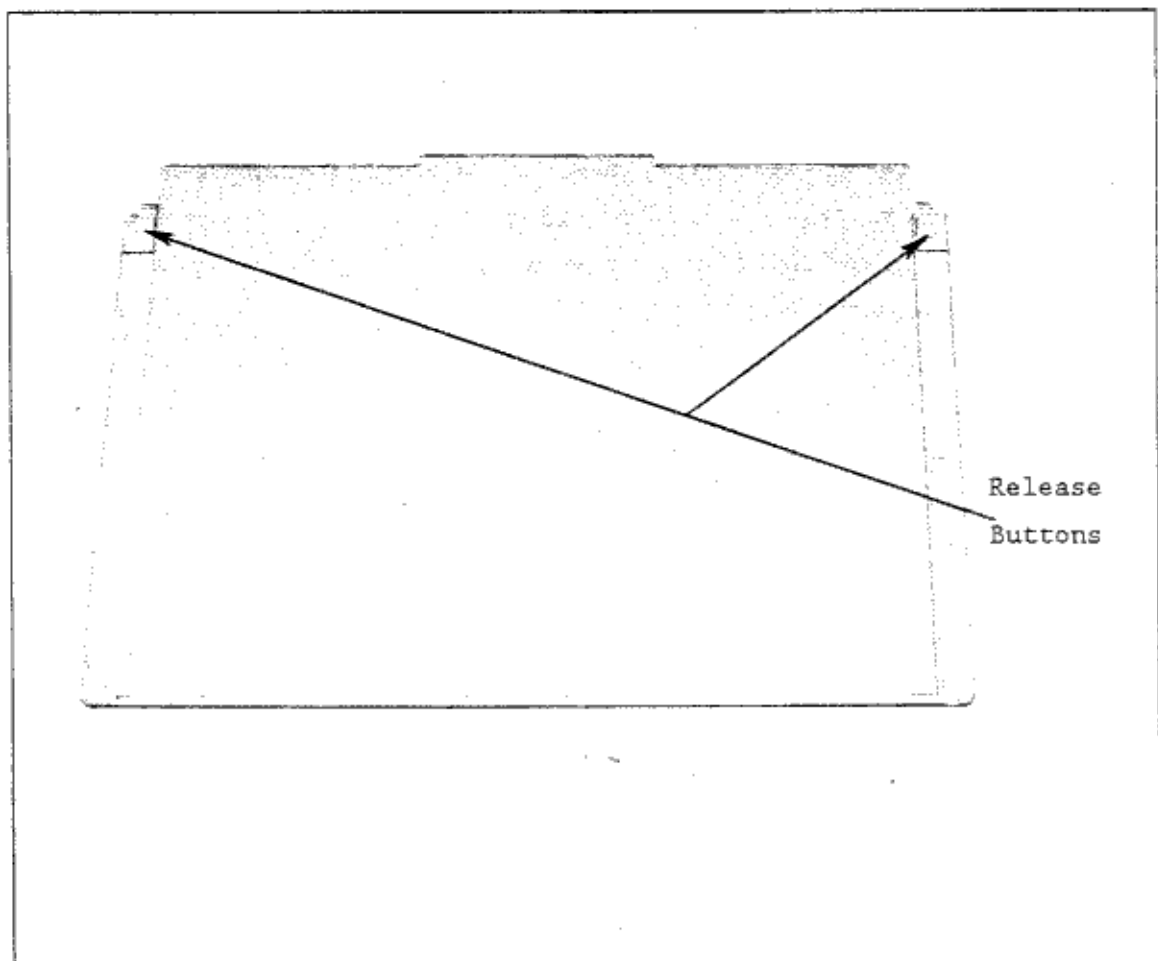

FIGURE 5-6 TABLET REMOVAL
1. Referring to Figure 5-6, press the two release buttons and pull the tablet straight out.